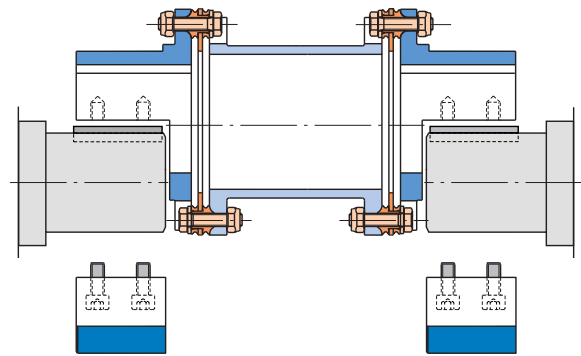

Fig. 116
- Place the coupling from above onto the shafts and pre-assemble it with the respective half-shells (Fig. 116).